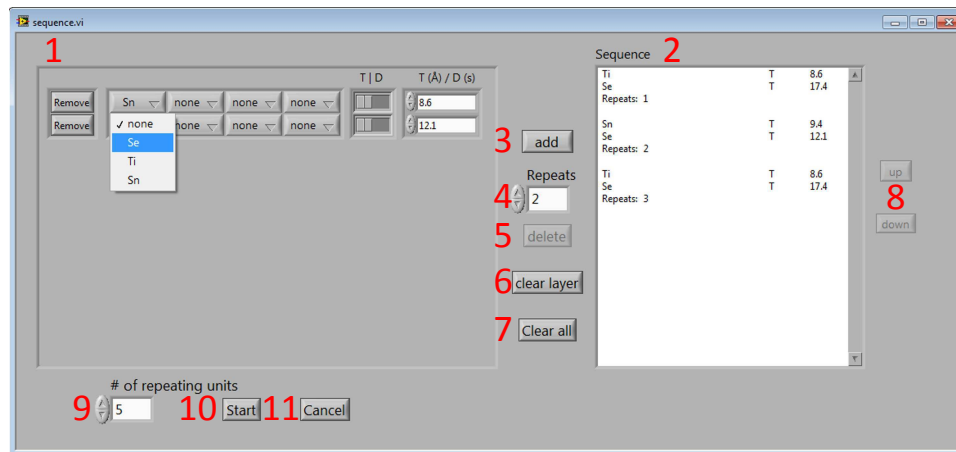

Figure 3.4: Front panel of the sequence builder `sequence.vi`. For a description of the elements see text.
From the main menu, the “Deposition” button will lead to the sequence builder. Clicking on this button will write all elements and rates to the IC6, which is equivalent to pushing the “Update Elements” button. The sequence builder is shown in Figure 3.4 and consists of the following elements:
The sequence can be easily modified. After selecting a layer set with a single click, the layer set can be moved up and down (8) or completely deleted using the “delete” button (5 in Figure 3.4).